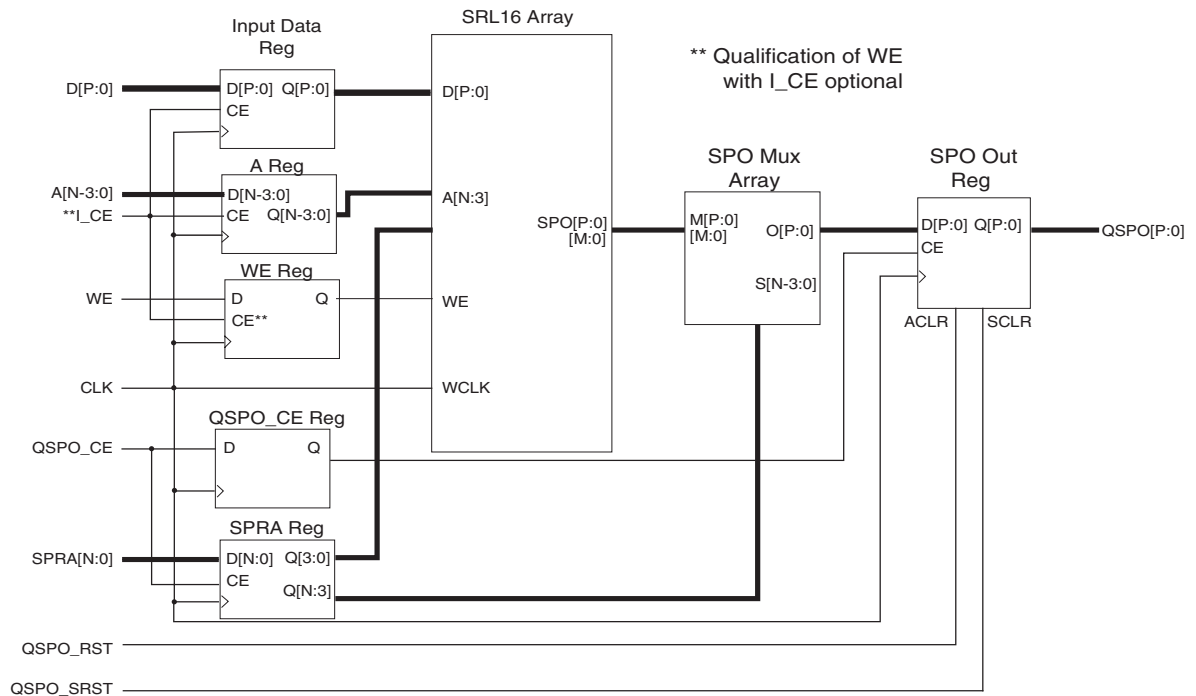

Figure 8: SRL16-Based RAM Module Schematic
- **SRL16-Based RAM.** Figure 8 is a schematic of the structure of the SRL16-based RAM module. The address and data registers are optional (controlled by the setting of the Input Options parameter). Output registers are also optional (controlled by the setting of the Output Options parameter). The resets and clock enables are optional. When the project family is set to Virtex-5 and above architectures, this option will be greyed-out.